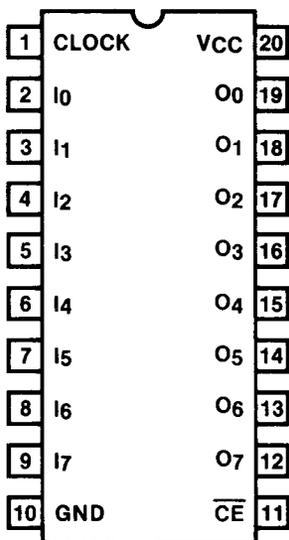

Figure 2-5. Pin Identification
1. After the selected inputs, I₀ through I₇ (Figure 2-5), and V_{CC} at 4.5 to 5.0 V, have been stable for T₁, raise the "Enable" (pin 11) to V_{EP}. (See Table 2-20.)
9. Should the output not verify, repeat steps 2 through 8 up to five (5) times.